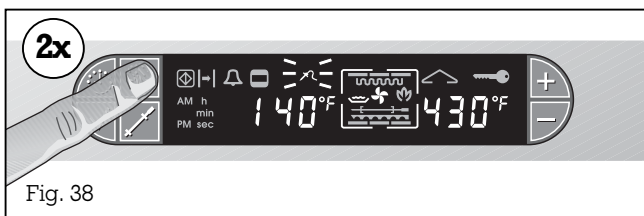

Fig. 38
- Press the ^ (Core temperature sensor) key twice. The ^ (Core temperature sensor) symbol flashes and the suggested value of 60 °C / 140 °F can be seen on the display (Fig. 38).